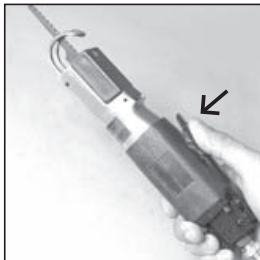

Figure 8
4. Push forward the lever of the trigger and press down on the trigger to start the tool. (See Figure 8)